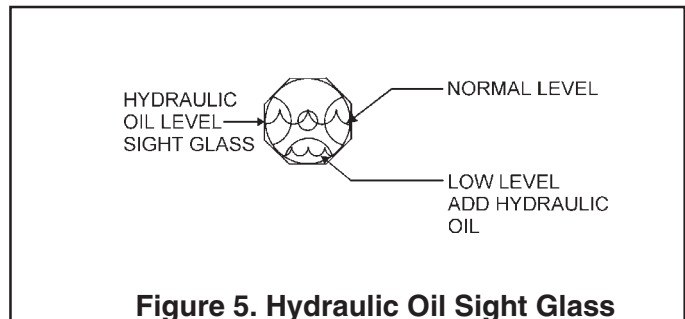

Figure 5. Hydraulic Oil Sight Glass
1. Determine if the hydraulic oil is low by observing the level of oil in the Hydraulic Oil Sight Glass (Figure 5).